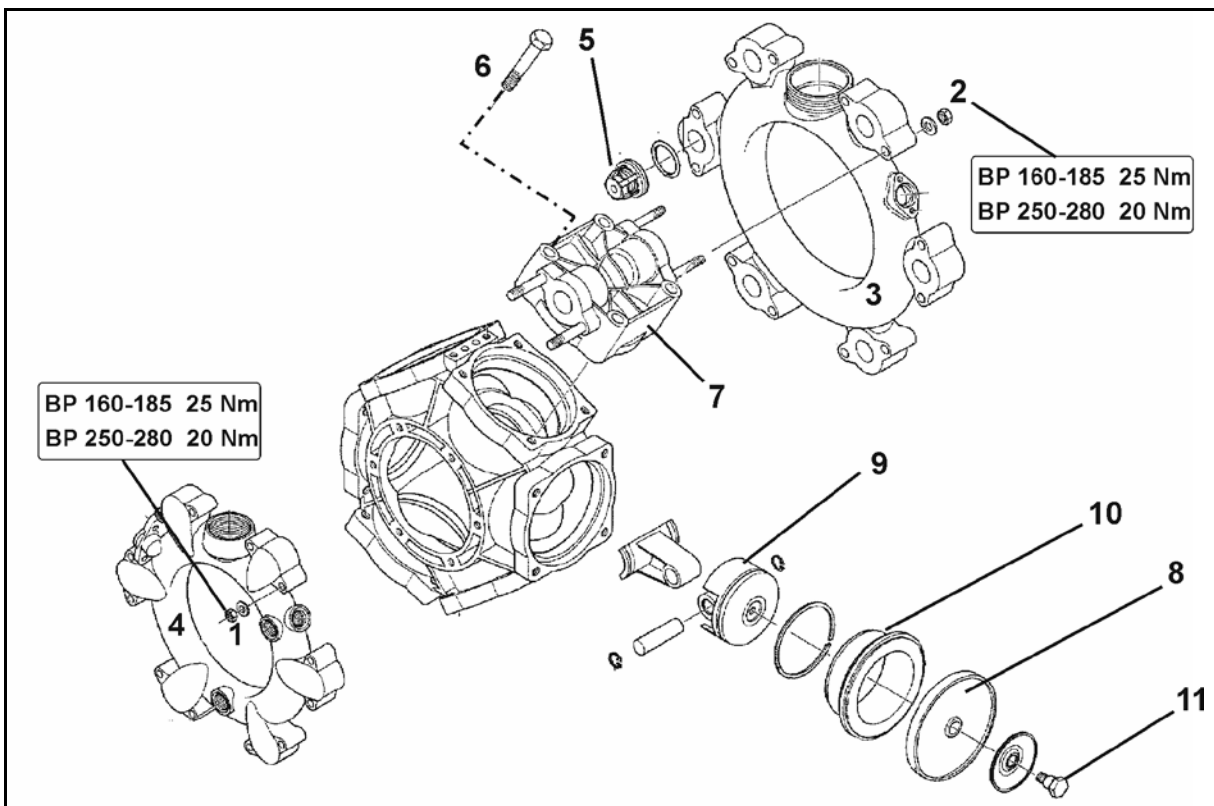

Fig. 185
- At least once a year, check that the piston diaphragm (Fig. 185/8) is in perfect condition by removing it.
- Pay attention to the respective installation positions of the valves on the suction and pressure sides before removing the valve groups (Fig. 185/5).
- As a rule, replace all piston diaphragms (Fig. 185/8), even if only one piston diaphragm distorted, punctured or porous.
2. Slacken the nuts (Fig. 185/1, 2).
3. Remove the suction and pressure port (Fig. 185/3 and Fig. 185/4).
4. Remove the valve groups (Fig. 185/5).
5. Remove the screws (Fig. 185/6).
6. Remove the cylinder head (Fig. 185/7).
7. Check the piston diaphragm (Fig. 185/8).
- Secure the piston diaphragm (Fig. 185/8) with a washer disc and a screw (Fig. 185/11) on the piston (Fig. 185/9), so that the rim shows on the cylinder head side (Fig. 185/7).
- Always tighten the nuts (Fig. 185/1,2) in a crosswise fashion using the specified torque. Improper tightening of the nuts causes warping, which results in leaks.
1. Undo the screw (Fig. 185/11) and remove the piston diaphragm (Fig. 185/8) and the washer disc from the piston (Fig. 185/9).
3. Remove the hydraulic cylinder (Fig. 185/10) from the pump housing.
6. Insert the cylinder (Fig. 185/10) back into the pump housing.
7. Fit the piston diaphragm (Fig. 185/8).
8. Mount the cylinder head (Fig. 185/7) on the pump housing and tighten the screws (Fig. 185/6) an equal amount in a crosswise fashion.
9. After testing and cleaning, fit the valve groups (Fig. 185/5).
11. Mount the suction (Fig. 185/3) and pressure port (Fig. 185/4) on the pump housing.
12. Tighten the nuts (Fig. 185/1,2) in a crosswise fashion using a torque of **25 Nm (BP 160-185) / 20 Nm (AR 250-280)**.